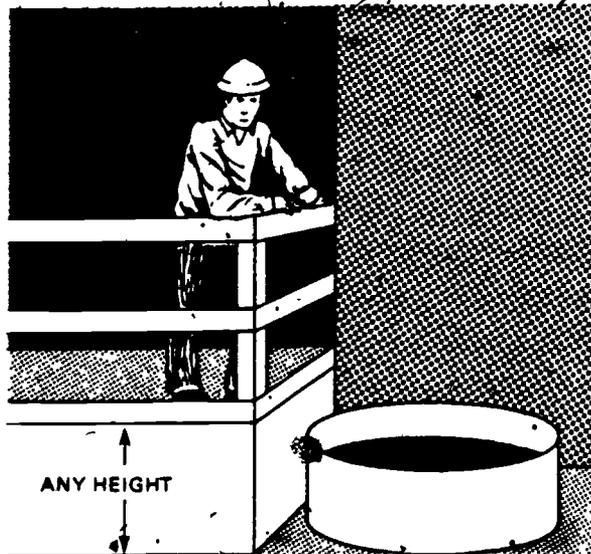

Figure 8. No matter what their height, runways and platforms that are next to dangerous equipment of any kind need to have standard railing and toeboard.
There are three situations in which a toeboard, an enclosure screen, or paneling is needed in addition to the standard railing. Whenever an open-sided floor, platform or runway is placed so that, below the open side (1) people can pass, (2) moving machinery is stationed, or (3) equipment is placed with which falling materials could make hazardous contact, then a toeboard, an enclosure screen, or paneling is needed. In the case of a runway, a toeboard is needed if there is any chance of tools, machine parts, or materials being used on the runway. Workers need to be very careful of runways or platforms which are above or next to dangerous equipment of any kind, such as pickling or galvanizing tanks, degreasing units or similar hazards (Figure 8). In these situations, regulation, along with common sense, requires